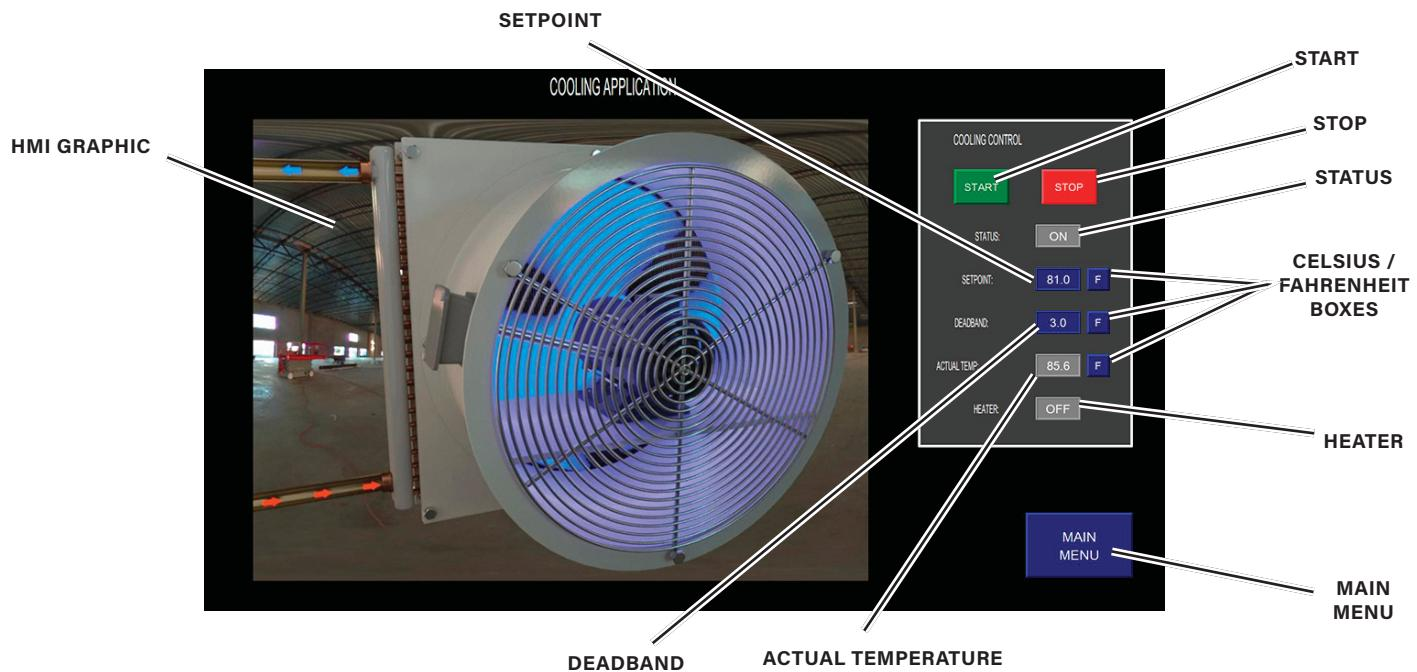

Figure 2-7. Diagram of Cooling Application Inputs and Outputs
A. Examine the control diagram of the cooling application shown in figure 2-7.